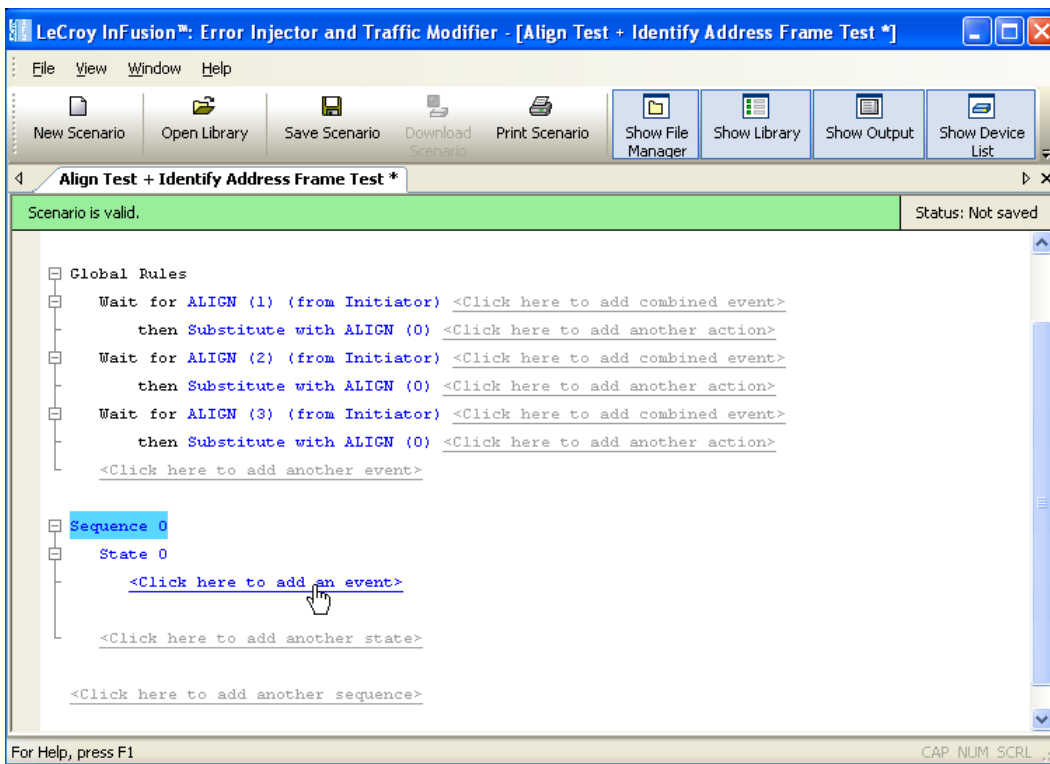

Figure 5.37 Example 7: Adding an Event for the First State
- Step 4** In the State 0 area, click on the prompt to **add an event** (Figure 5.37).